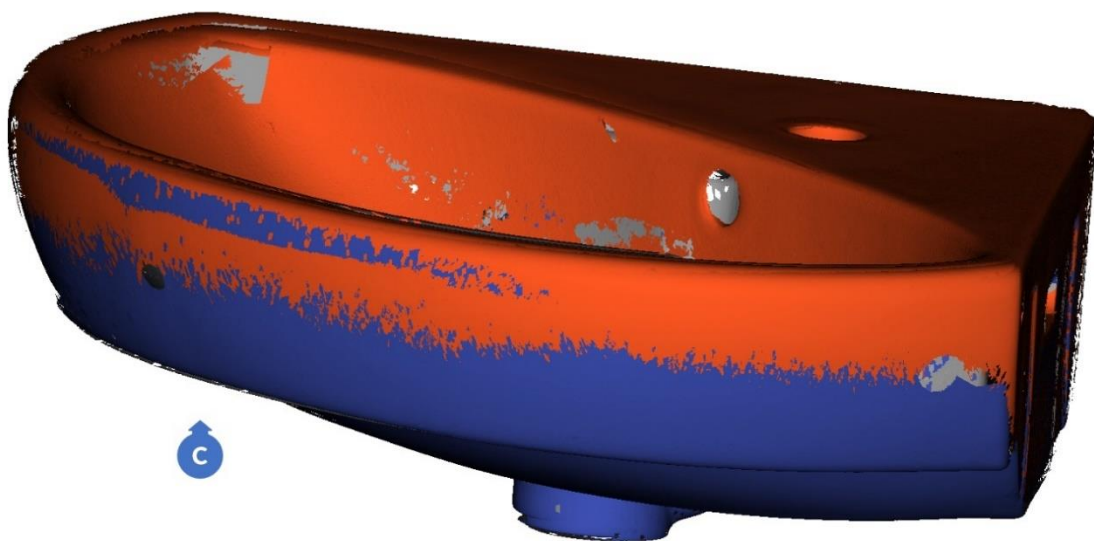

Figure 215. Matched series that form an object
If a series (A) is run over a rotary table and the object is flipped and a series (B) is made, both groups will be combined into one object (C) (Figure 215) based on detection of common markers visible for both series.